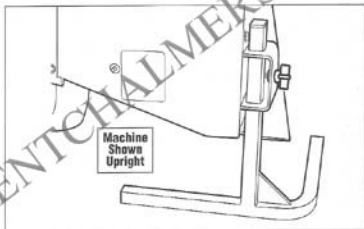

Figure 2-3: Storage stand lowered.
- Tighten the adjustment knob. See Figure 2-3. Remove the machine from the pallet.